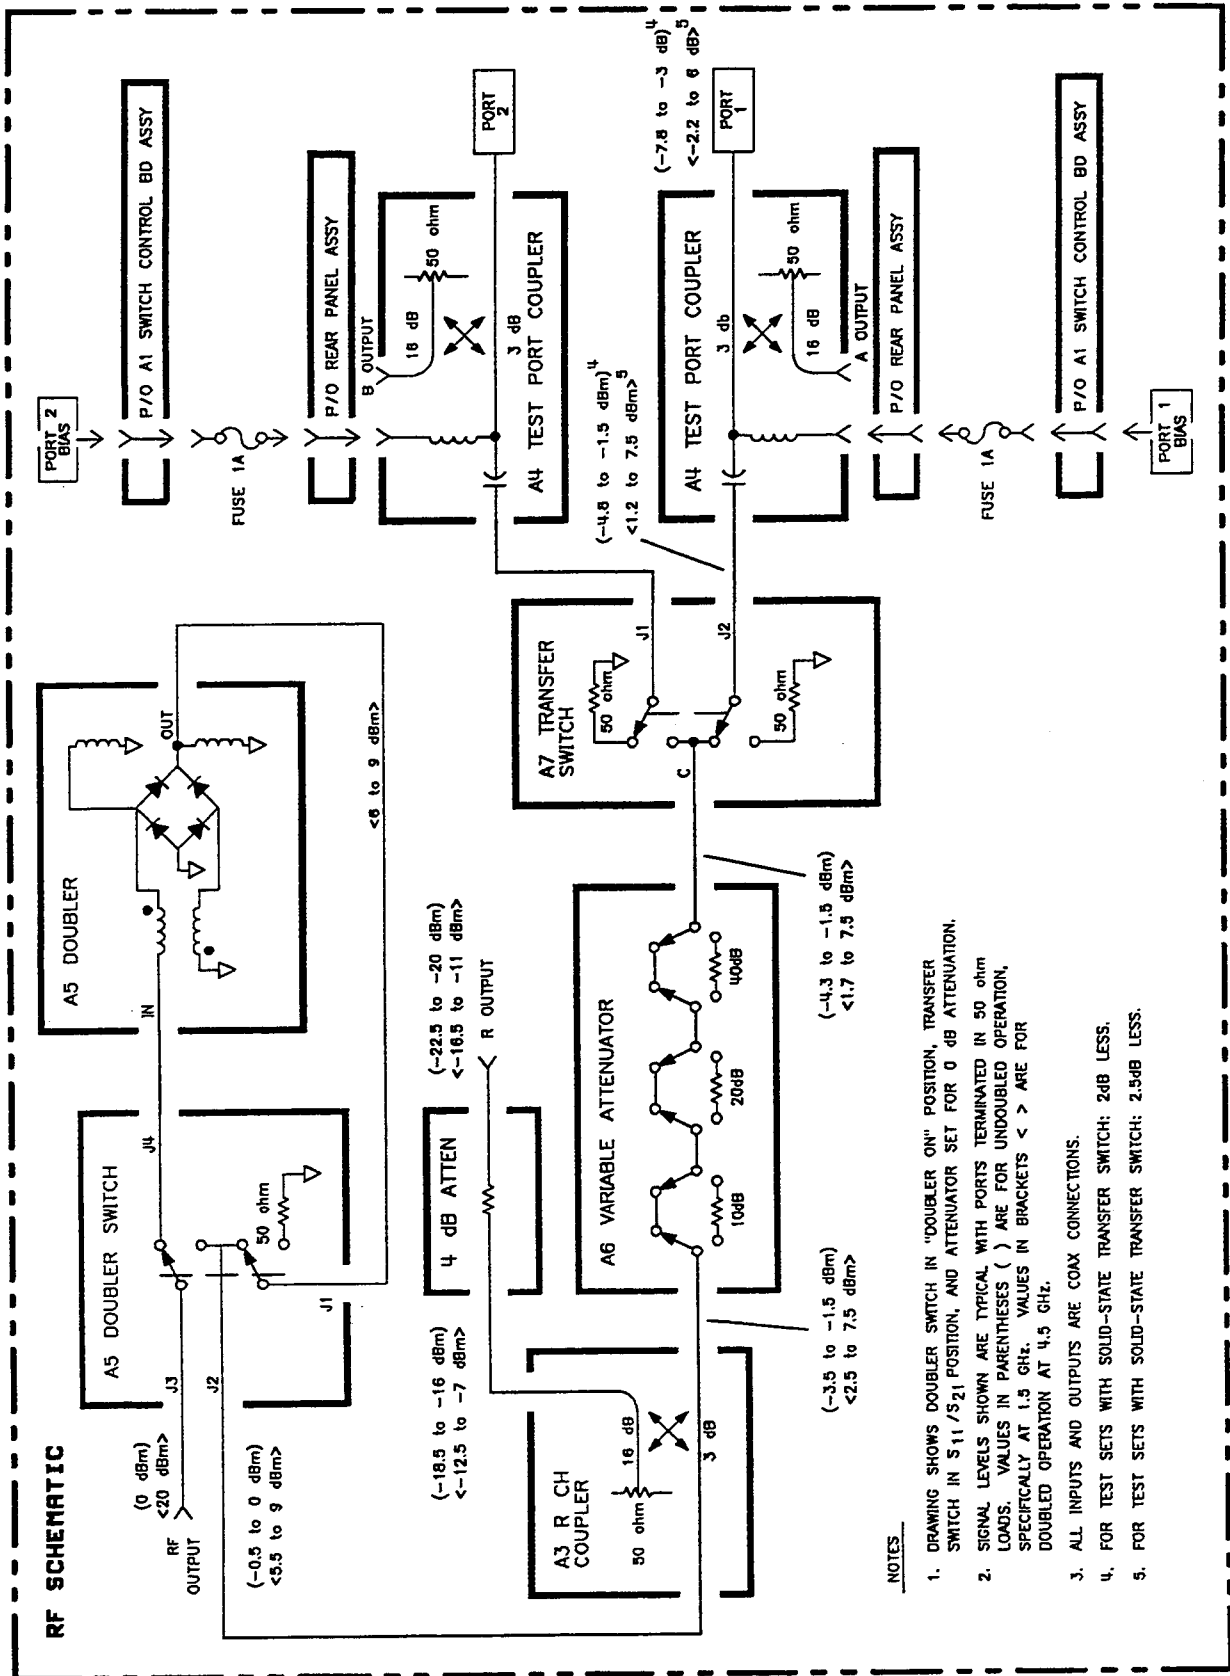

Figure 18. RF Power Levels at (1.5 GHz) and <4.5 GHz>
- Figure 18: RF schematic with power levels at two CW frequencies
Connect the test set to the analyzer with the test set interconnect cable and the 4 RF cables recommended in Table 2. Measure the power levels at outputs R, A, and B, as required, with a power meter and the appropriate power sensor for the frequency range in question. Disconnect the RF cables, one at a time, and connect the power sensor to the test set connector. Refer to Figure 18 for the RF schematic. Two sets of typical power levels are shown with their setups indicated below.